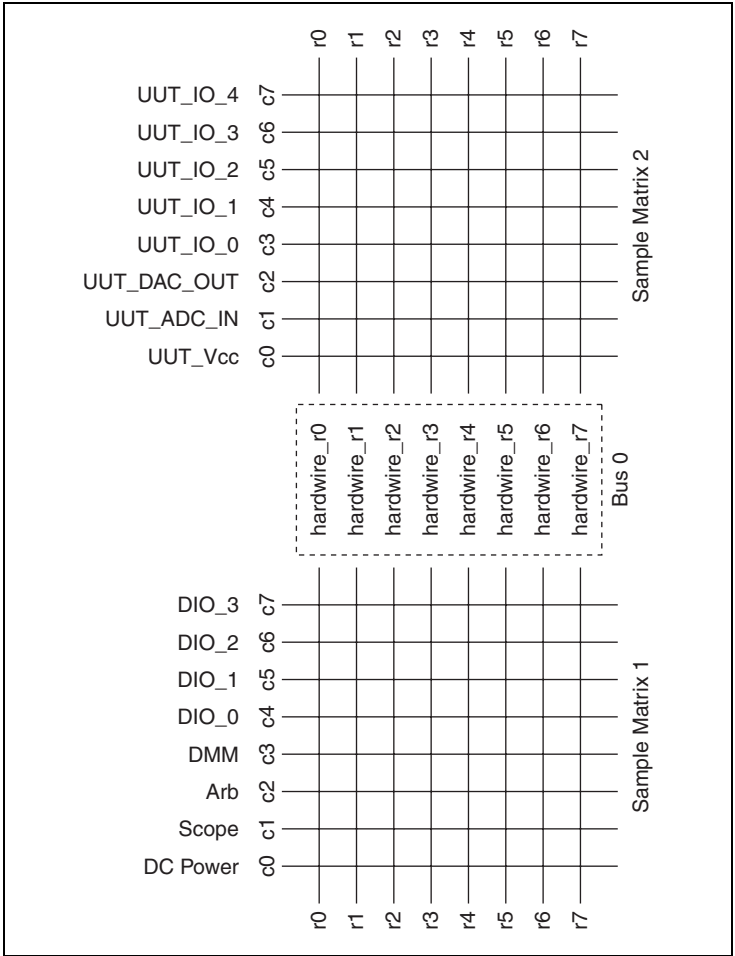

Figure 1. Example Switch System Layout
To acquaint you with the fundamentals of using NI Switch Executive, this tutorial creates an NI Switch Executive virtual device using two 8×8 matrices that operate as one 8×16 matrix. The architecture for the switch system you are creating for this tutorial is shown in Figure 1.
Now that the NI Switch Executive virtual device has been created, you need to configure the device. To begin, name your channels based on the configuration in Figure 1.
2. Repeat for `Scope`, `Arb`, `DMM`, `UUT_Vcc`, `UUT_ADC_IN`, and `UUT_DAC_OUT`. Refer to Figure 1 to determine what columns to rename.
Note All intermediate channels between two endpoints must be marked as reserved for routing. Marking a channel as reserved for routing notifies NI Switch Executive that it can use the given channel as needed to complete a route. For example, to connect `c0` to `c1` in the `SampleMatrix1` shown in Figure 1 requires a reserved for routing channel. In this example, `r0`, `r1`, `r2` and so on can be a reserved for routing channel.